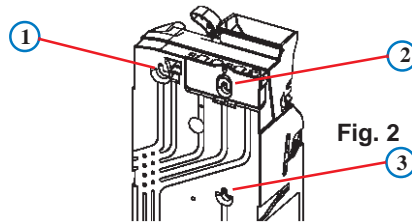

Fig. 2
- Once open, the mounting holes are accessible. Hang the coin changer on the mounting studs/screws, ensuring that the changer is mounted on all three studs/screws (See Fig 2).